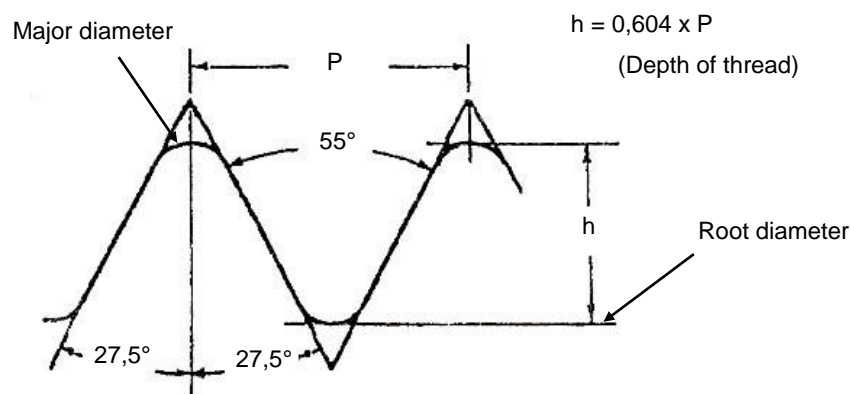

FIG 5.
C. Fig 5 below contains the design details of the Whitworth Thread System.